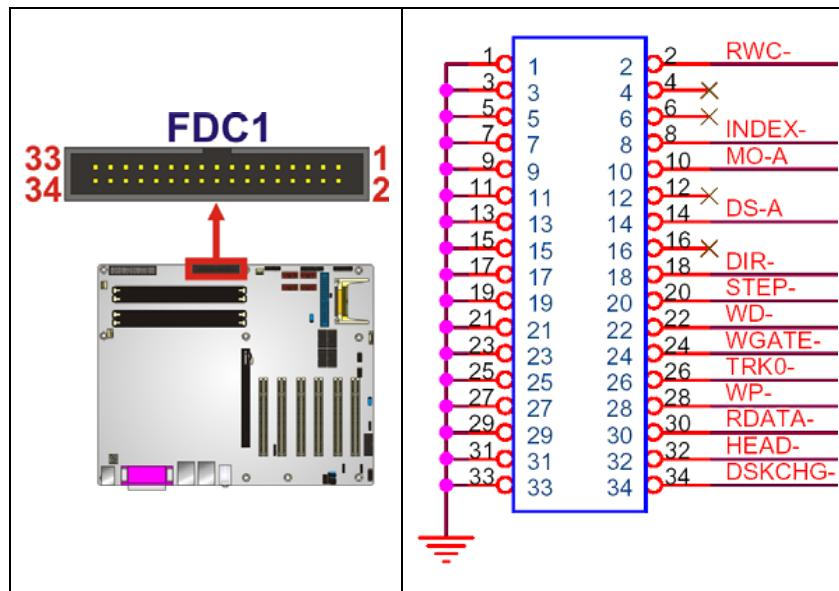

Figure 4-10: FDC Connector Location
4.2.9 Floppy Disk Connector**CN Label:** FDC1**CN Type:** 34-pin header (2x17)**CN Location:** See Figure 4-10**CN Pinouts:** See Table 4-11